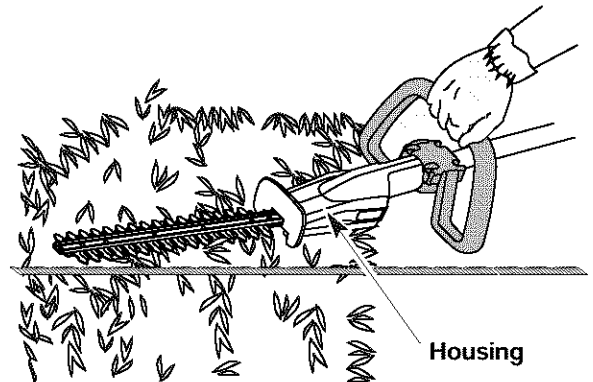
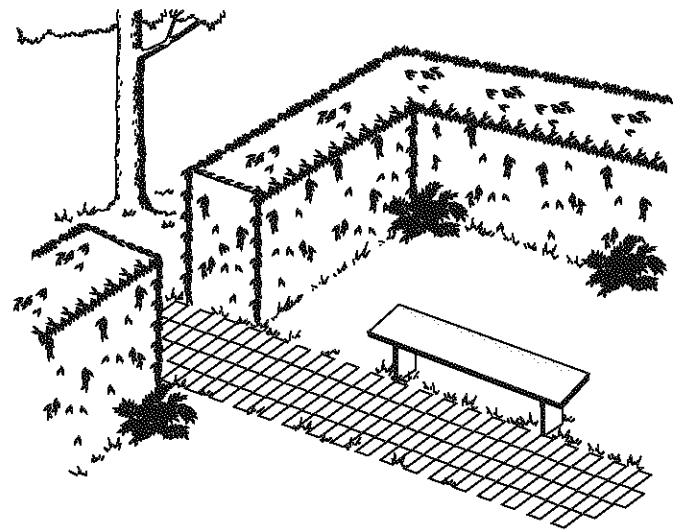

Fig. 5
Fig. 6
2. If desired, you can use a string to help cut your hedge level. Decide how high you want the hedge. Then, stretch a piece of string along the hedge at this height. Trim the hedge just above this guide line of string (Fig. 5). Trim the side of a hedge so that it will be slightly narrower at the top (Fig. 6). More of the hedge will be exposed when shaped this way, and be more uniform.